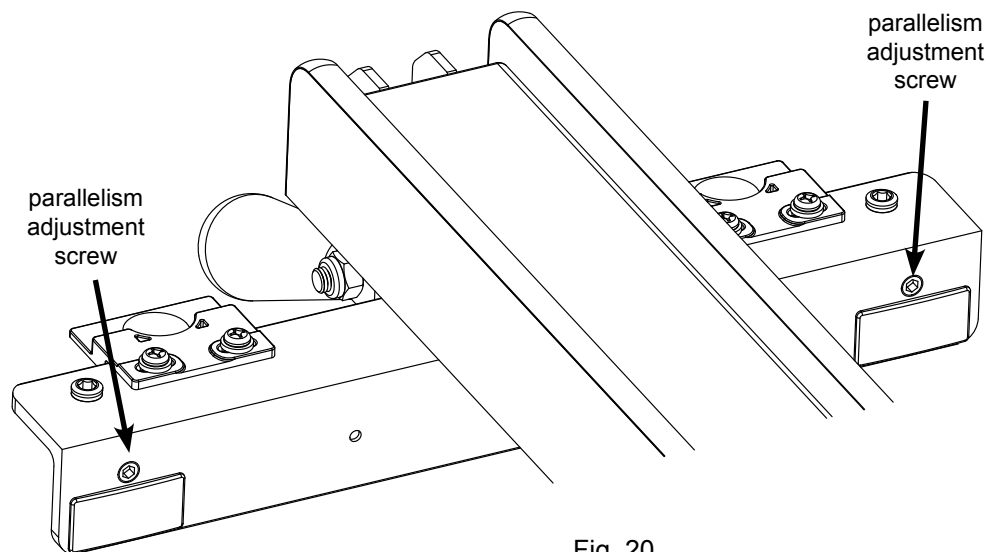

Fig. 20
20. Press down on the fence handle to clamp the fence to the front tube. If the fence does not clamp tightly enough to hold its position against a moderate amount of force, you can increase the clamping pressure by turning both parallelism adjustment screws clockwise using a 5 mm hex key. Those screws are located in the vertical portion of the fence cross-bracket (see Fig. 20). Alternatively, if too much force is required to push the fence handle down to clamp the fence to the front tube, you can reduce the clamping pressure by turning both parallelism adjustment screws counter-clockwise.
The next step is to align the face plates to be parallel to the miter slots. Begin by sliding the fence along the front tube until the left face plate is flush with the right edge of the right miter slot. Lock the fence handle and check that the face plate is flush with the miter slot edge along its whole length (see Fig. 25). You can check this either visually or by running your finger along the face plate and miter slot edge. If there is any misalignment, you can correct it by turning one of the two parallelism adjustment screws in the vertical edge of the fence cross-bracket (see Fig. 20).